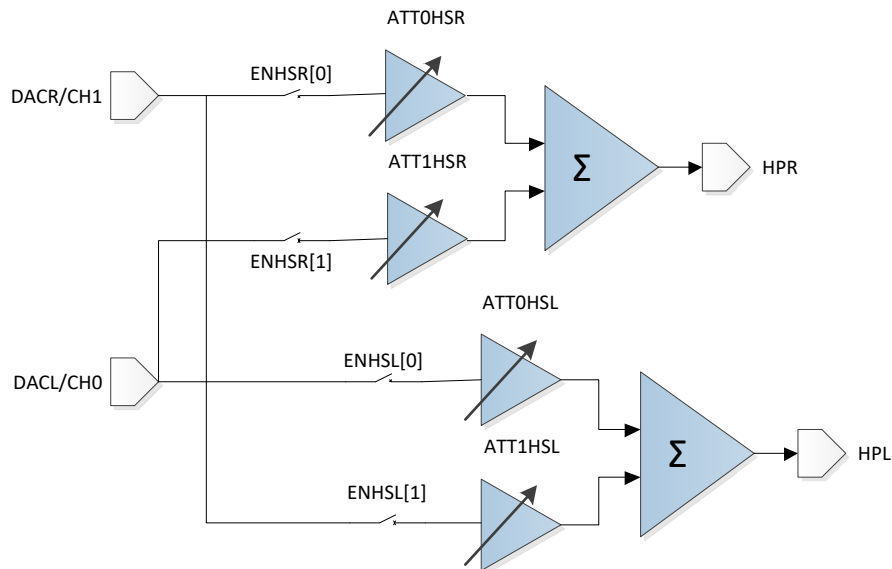

Figure 35: DAC to Headphone out path diagram
- 5) According to Figure 35, three threshold voltage levels for Key2 level could be set by **ENABLE_LEVEL=010**. First threshold voltage could be 98, the middle of 116 and 80 from 3) and 4). Hysteresis value can be set to 15, less than 50% of difference 116 and 80.
- **VDET_COEFFICIENT.HY_COEFF_REG0X14[3:0]** can be used to change the hysteresis range. The SARADC voltage needs to be lower than the hysteresis range to go into the lower level Key. On the other hand, voltage needs to be higher than the hysteresis range to go into a higher level key. This is shown by the dashed lines in Figure 35. If the voltage sampled is in the hysteresis range, the level needs to be compared to the previous state. For example, if the previous stat is Key 2 and the new sample is in the Key 1 hysteresis range, the logic will claim the status is still Key 2.